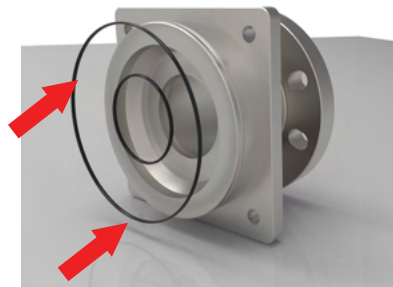

Figure 16c
2. Fit the inner and outer O-rings to the port flanges. (Figure 16c)